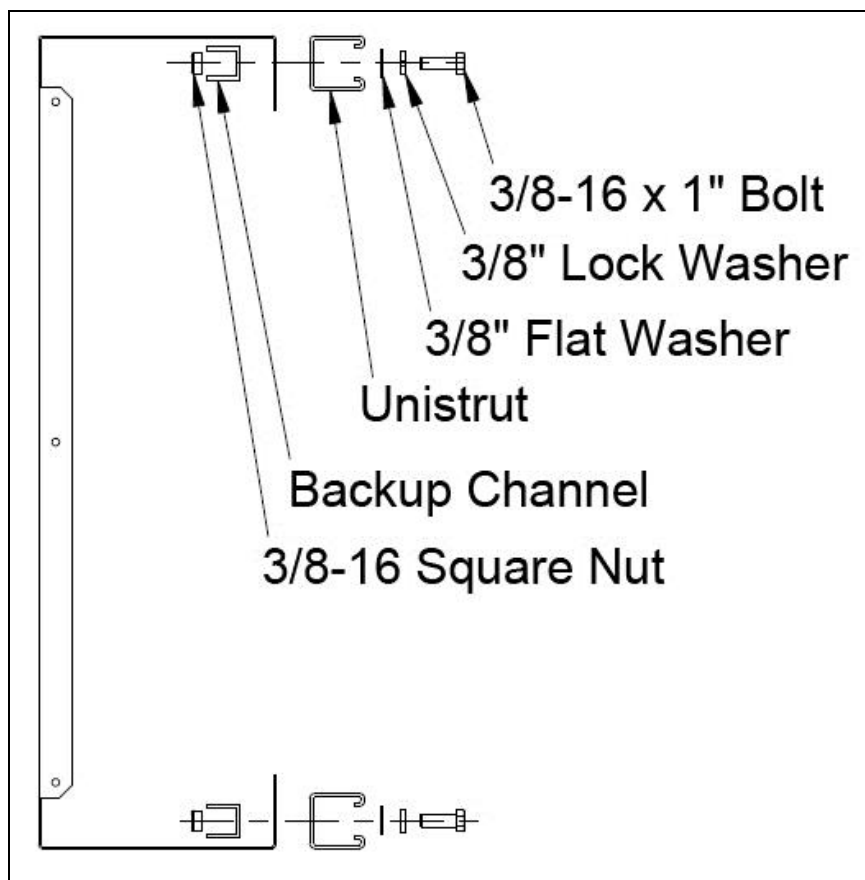

Figure 10: Unistrut Attachment, Side View
3. Attach the piece of unistrut to the ad panel with the included hardware, as shown in **Figure 10**.